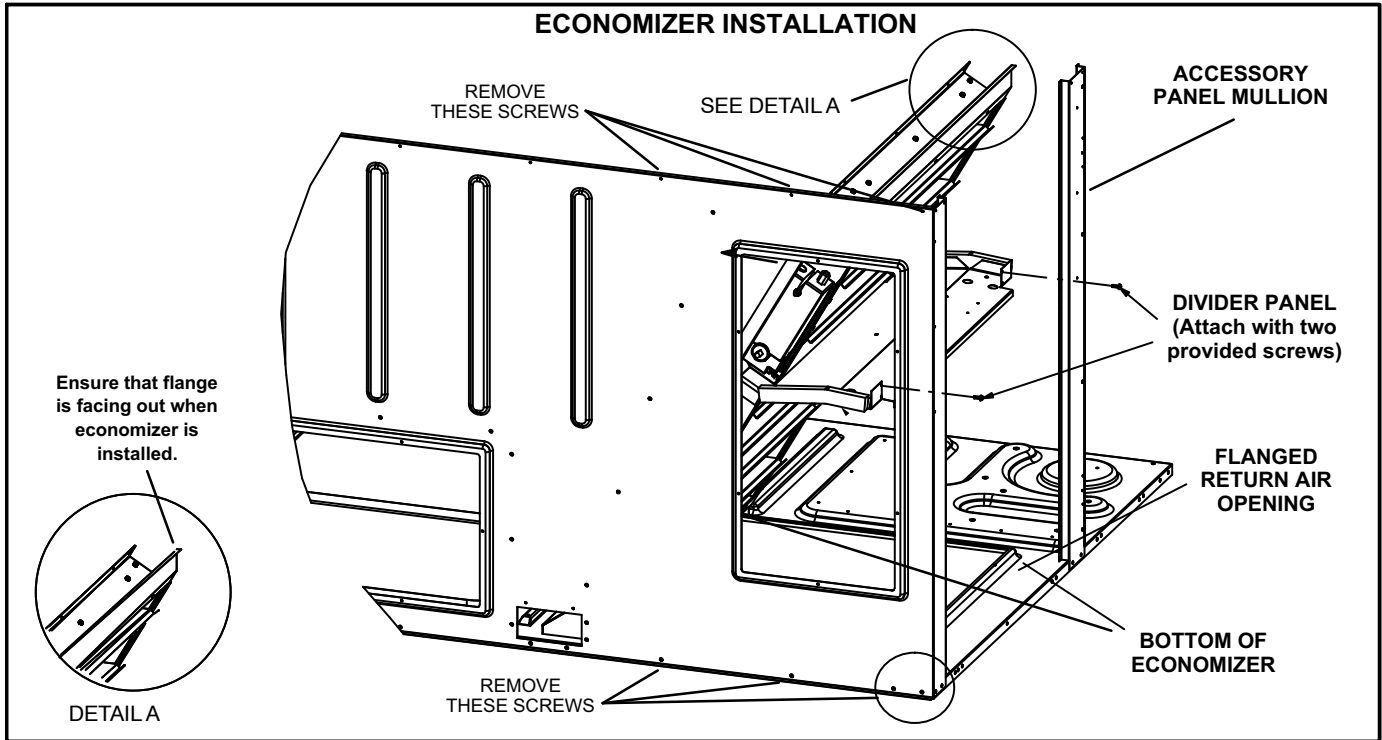

FIGURE 13
- 3- Remove and retain screws from top and bottom of rear panel. Remove screws from accessory panel mullion and remove mullion. Lift the top of the unit as needed. See figure 13.
- 4- Slide the bottom of the economizer over the flanged return air opening in the base of the unit until it settles into place. See figure 13.
- 5- Use provided screws to secure economizer divider panel to unit end mullion and accessory compartment mullion as shown in figure 13.